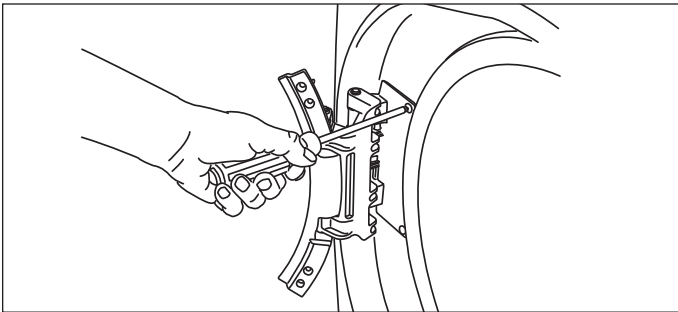

Figure 2-21.
1. With the hinge in open position, remove 2 short, course-thread, panhead screws on hinge plate. (See Figure 2-21)